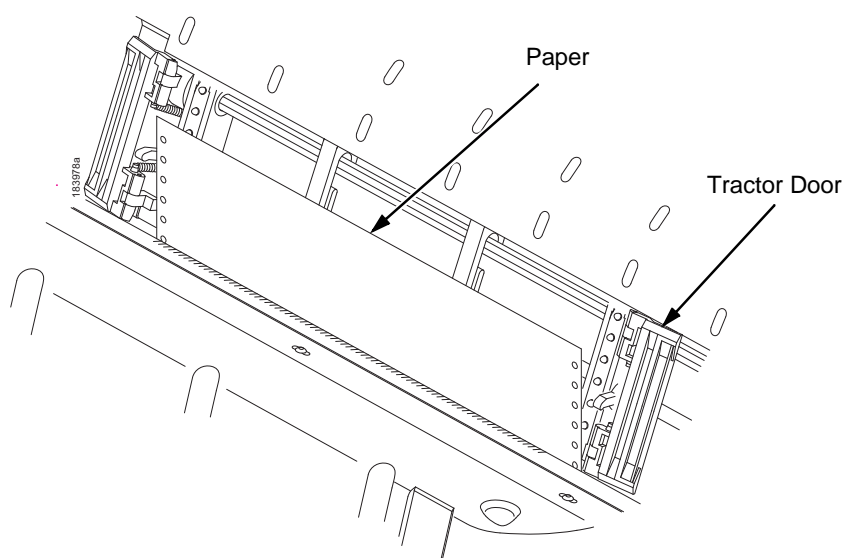

Figure 15. Reloading Paper
7. Reload the paper in the tractors (see Figure 15).